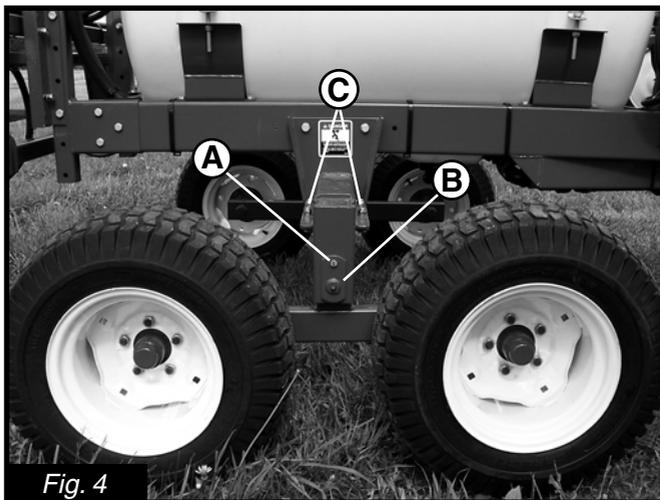

Fig. 4
3. If the tandem beam does not need to be reversed (see note above), skip to step 4. To reverse tandem beam, remove retaining bolt **A** (Fig. 4) and remove pin **B** (Fig. 4). Remove the tandem beam and reinstall with the wheels on the opposite side. Reinstall pin **B** (Fig. 4) and retaining bolt **A** (Fig. 4).
4. Loosen the four bolts **C** (Fig. 4) and slide the axle insert in or out until the required wheel spacing is obtained (center of tire to center of frame must be equal for both sides). Tighten bolts **C** (Fig. 4).